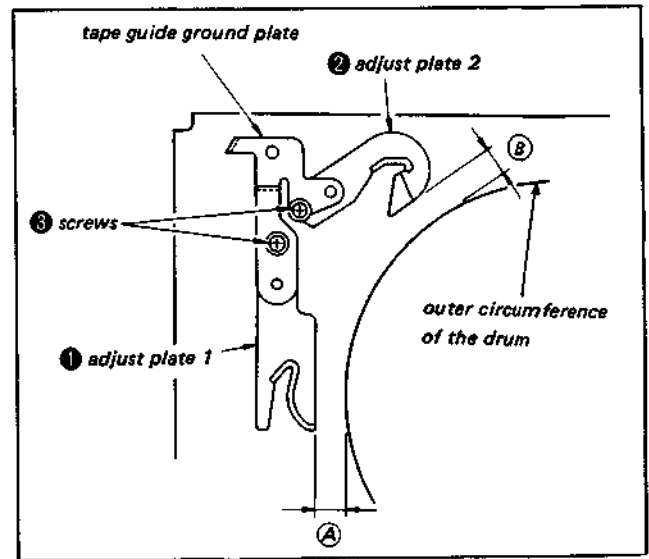

Fig. 3-5. Position measurement of adjust plates 1 and 2
- ③ Remove the screws shown in Fig. 3-5, then remove the tape guide ground plate and adjust plates 1 and 2.